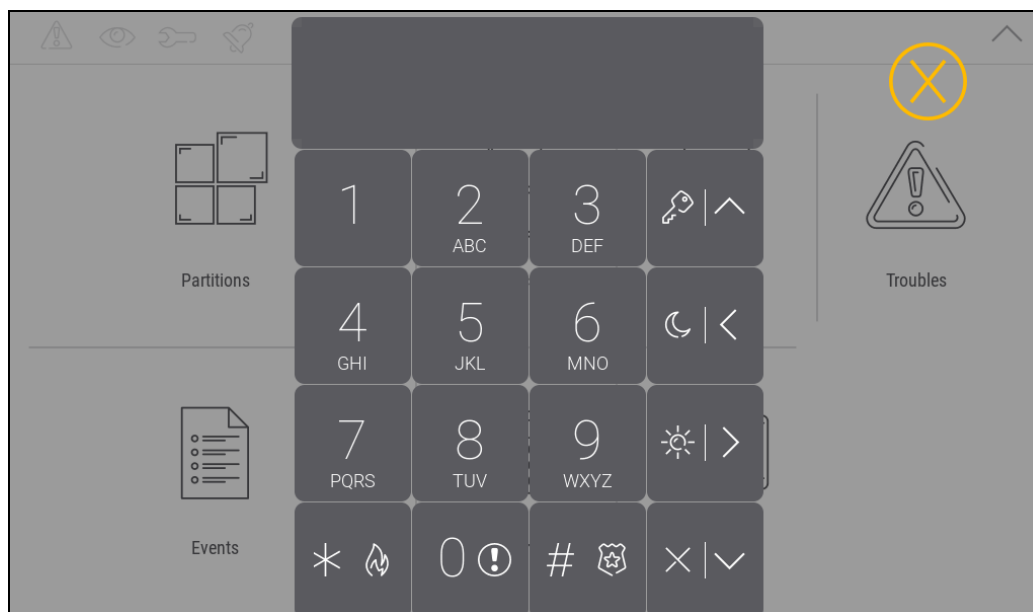

Fig. 10. Terminal.
4. Tap the "Terminal" function. The terminal will be displayed (Fig. 10).